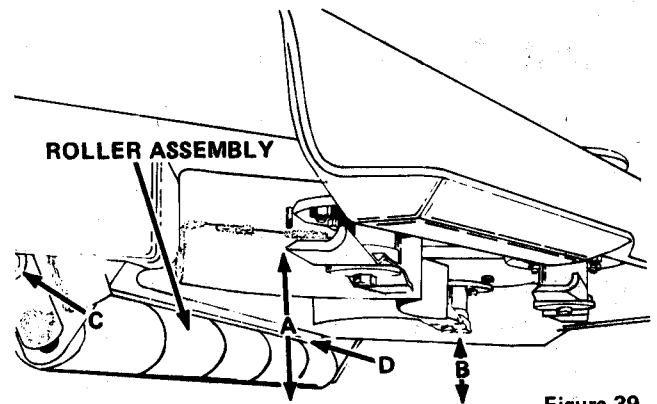

Figure 39
5. Rotate the blades until they are parallel to the roller assembly as shown in Figure 39. Measure distances A and B (from end of blade tips to the floor). These distances should be equal. If they are not equal, loosen roller assembly adjusting bolt C or D and pivot the mower deck up or down until distances A and B are equal with the roller resting firmly on the floor.